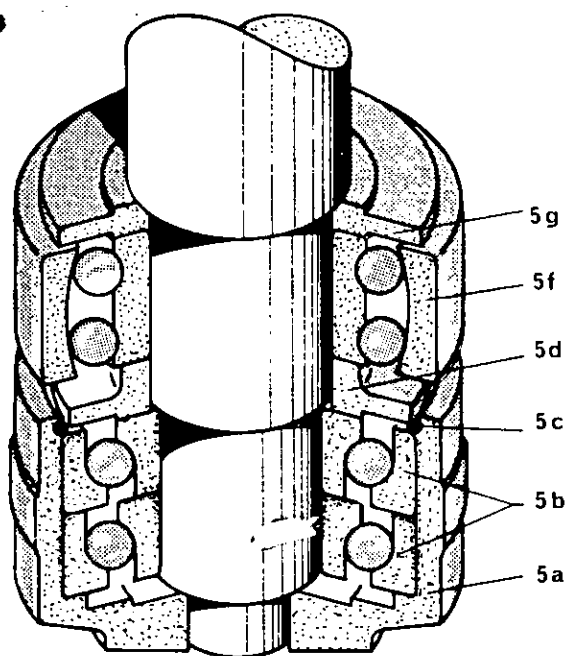

Fig. 8/3
- 4) If one of the angular contact ball bearings 5b needs replacement, be sure to replace both of them. Note that the angular contact ball bearings may be loaded axially in one direction only. They must be installed as shown in fig. 8/3. The narrow rim of the outer ring of each ball bearing must be on top. Faulty mounting will inevitably result in damage to bearings.